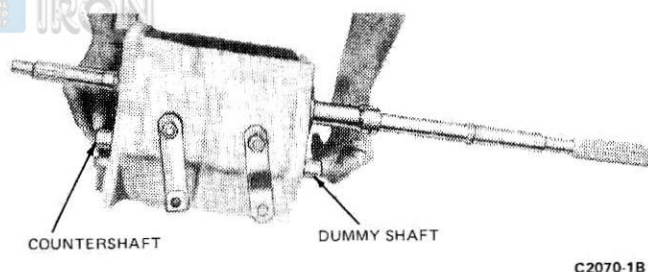

FIG. 6 Removing Countershaft
8. Hold the countershaft gear with a hook and with the tool shown in Fig. 6, push the countershaft out the front of the case. The countershaft (cluster) gear and thrust washers (Fig. 18) can now be lowered to the bottom of the case. Remove the countershaft from the rear of the case.